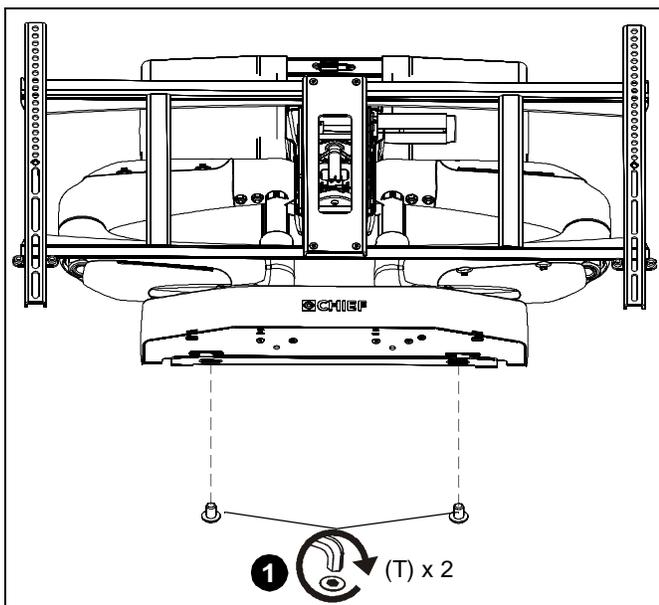

Figure 42
1. Make final attachment of PXR to wall mounting bracket using two 8-32 x 3/8" button head cap screws (T). (See Figure 42)